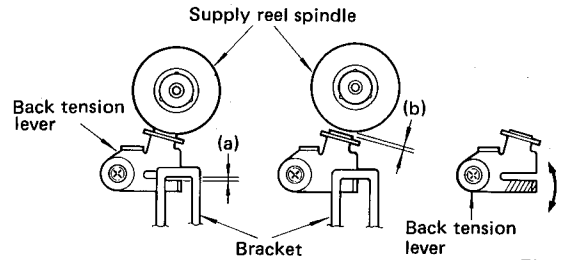

Fig. 7
1. Visually confirm that gap (a) in Fig. 7 is approximately 0.4mm while the unit is in the PLAY state.
2. Visually confirm that gap (b) in Fig. 7 is approximately 0.4mm while the unit is in the CUE state.